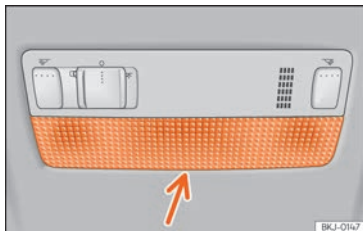

Fig. 56 Front reading light.
- Insert a fine screwdriver between the casing and the glass »» Fig. 56.